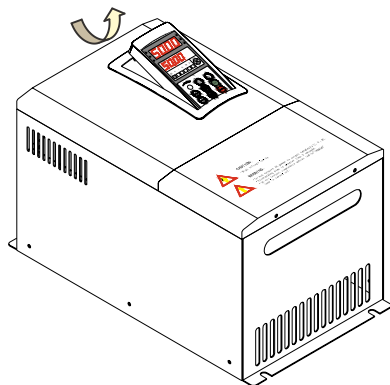

Fig. 3-12 Mounting Diagram for the operator panel and connecting wire of the inverter Model B
Step 1. Button up with a hand at the notch of the upper part of operator panel and remove the panel (as shown in the figure 3-12).